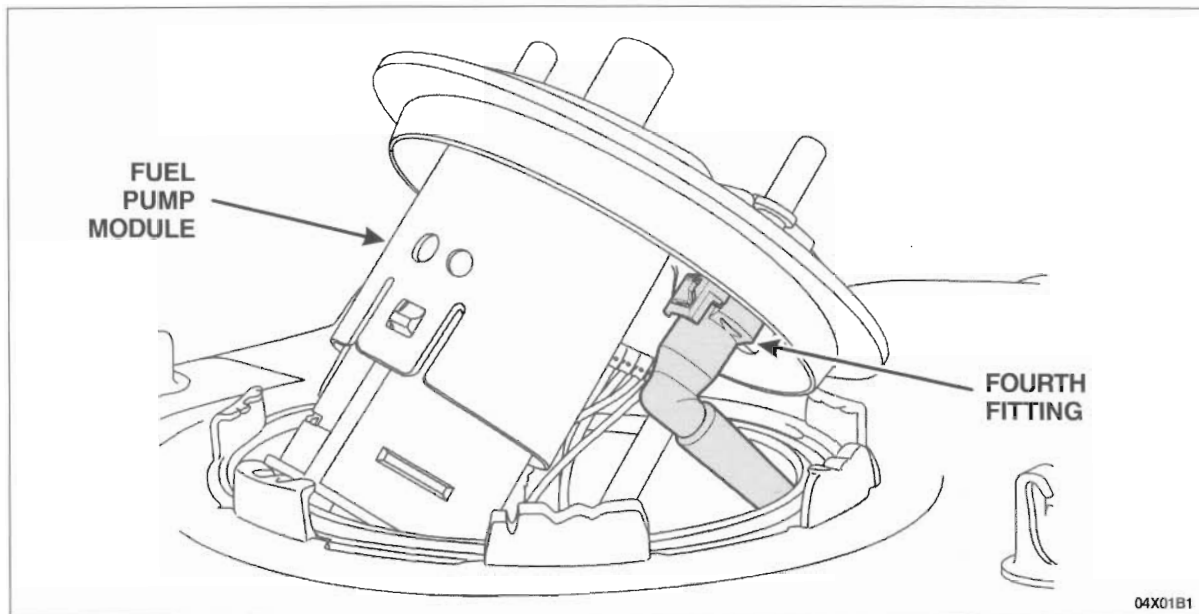
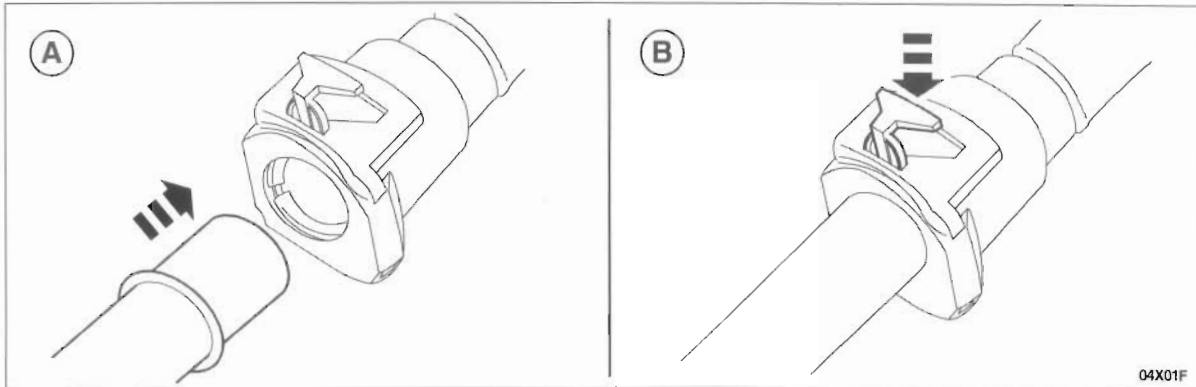

FIGURE 1
FIGURE 5
1. Remove the fuel pump module following the Workshop Repair Manual. Refer to the Fuel Tube Quick Connect Fitting instructions in this Attachment III. Be aware of a fourth fitting inside the fuel tank that connects to the underside of the fuel pump module upper plate. See Figure 1.
3. Install the fuel pump module O-ring, then position the fuel pump module and connect the internal fuel tube. See Figure 1. After the tube is connected to the port, squeeze the locking tab to fully engage the lock mechanism. See Figure 5. Then, tug on the tube to make sure the fitting is fully seated.
2. To reconnect: See Figure 5.